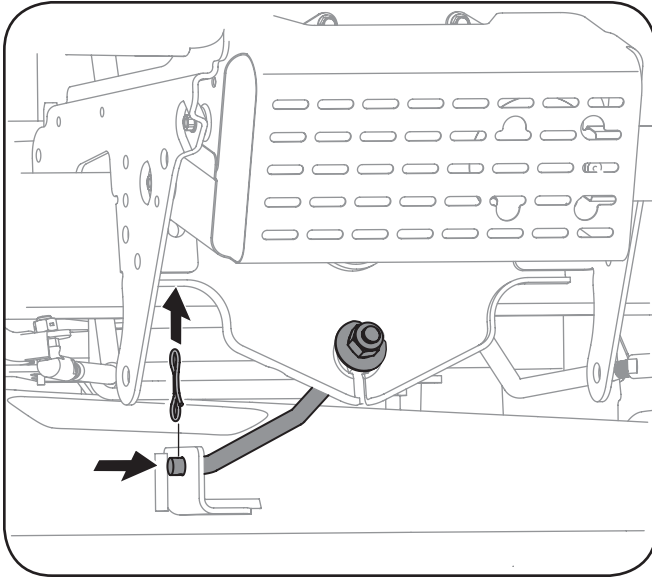

Figure 7-5
**On 42" & 46" Decks:** Remove the bow-tie cotter pin securing the deck stabilizer rod to the deck. Slide the deck lift rod from the mounting weldment on the deck as seen in Fig. 7-5.